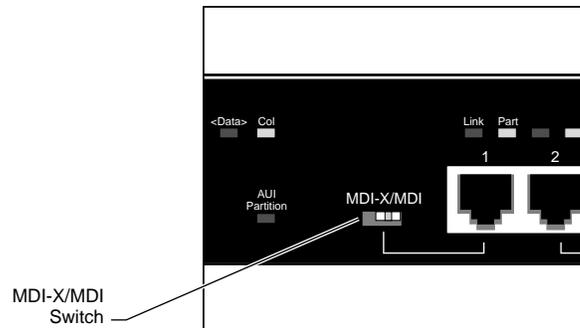

Figure 3-12. MDI-X/MDI Switch Set to MDI
1. Use a small flat-blade screwdriver to set the MDI-X/MDI switch on a Model 2800A to the MDI position (see Figure 3-12). This sets Port 1 as an MDI port.